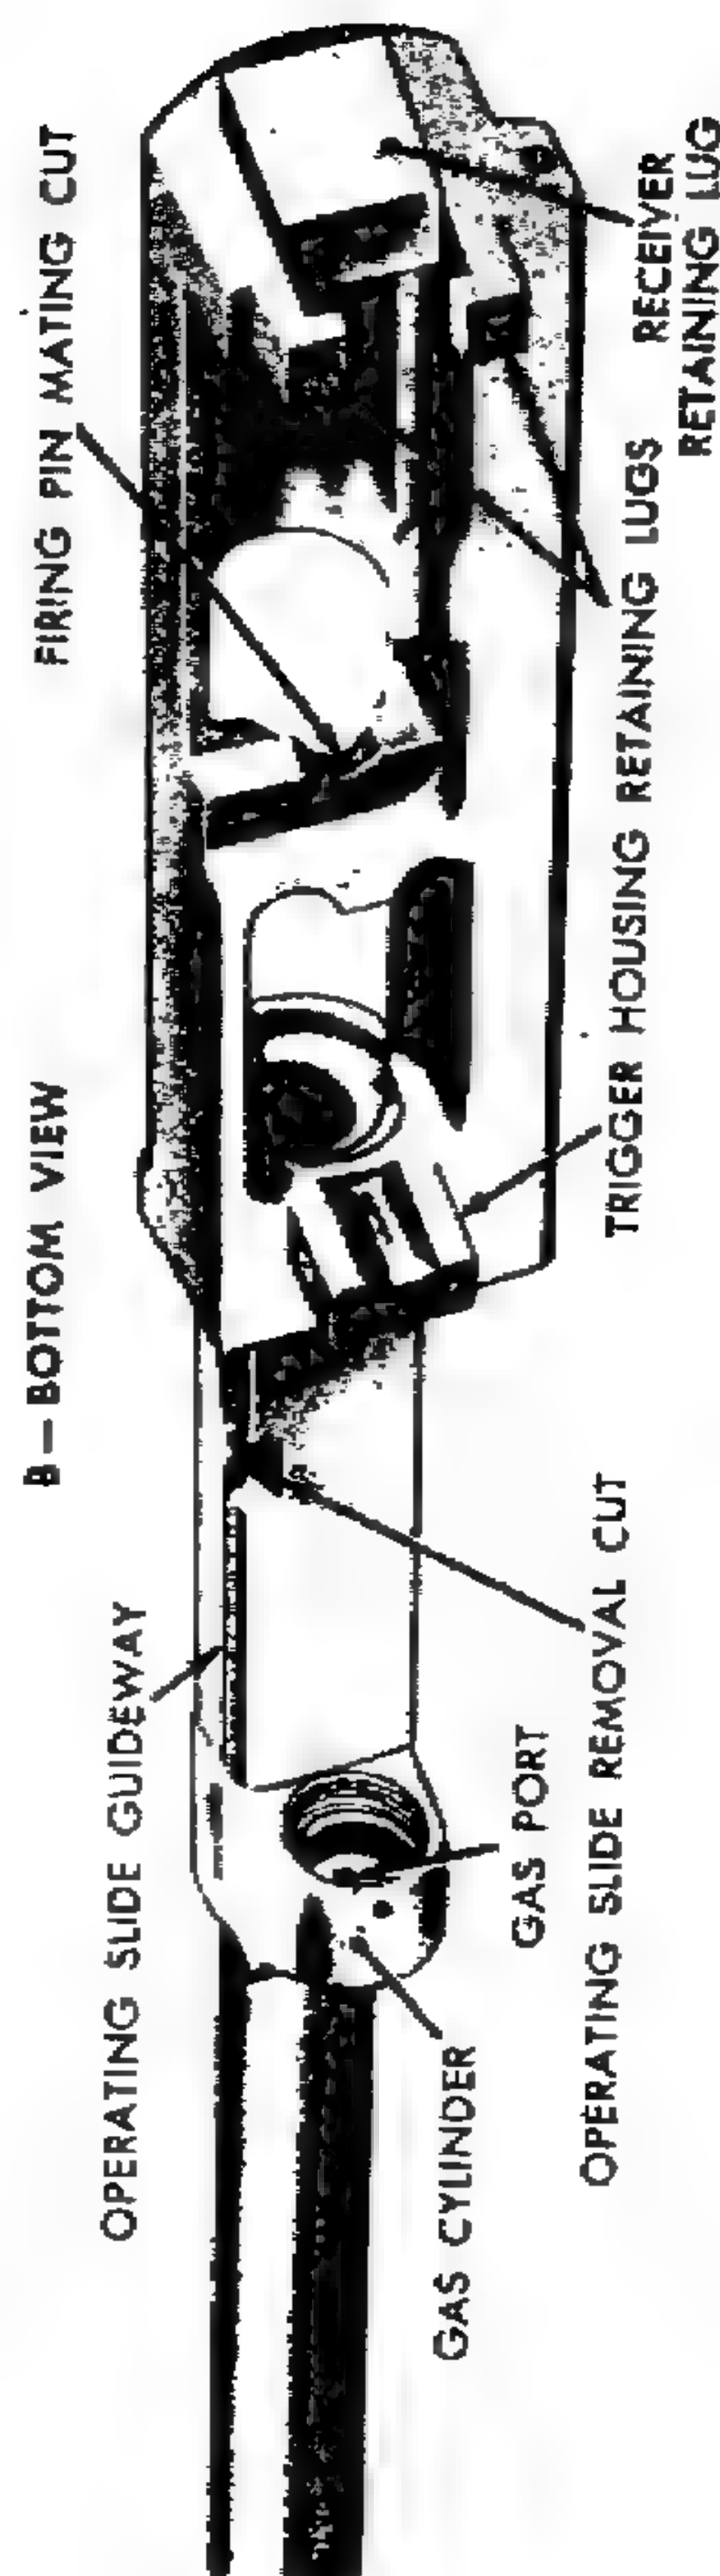

Figure 78. Barrel and receiver group—points of inspection.
- (1) Inspect operating slide spring well for rust or foreign matter. Visually inspect receiver for break-through of the operating slide spring hole. This break-through occurred in the original manufacture of some receivers because of the drill running out through either the bottom or right-hand exterior surfaces. If the forward end of the break-through is 3 inches or more from the front end of the receiver, it is acceptable; otherwise, it must be rejected (DEPOT MAINTENANCE ONLY). Any sharp or feather edges around this break-through are to be removed.
- (2) Inspect receiver under "black light" (Magnaglo or approved equal) for cracks in the area around the bolt locking slot at the right hand side and at the front and rear trigger housing retaining lugs (DEPOT MAINTENANCE ONLY). Receivers having cracks extending in both directions around a corner must be rejected.
- (3) Visually inspect condition of firing pin retracting cam mating cut in the bridge of receiver (fig. 78). This cam was cut to an angle of 33° in the earlier manufacture of receivers and later to 45°. Both are acceptable if in good condition.
- (4) Visually inspect trigger housing retaining pinhole in the receiver. If out-of-roundness is apparent, reject the receiver (DEPOT MAINTENANCE ONLY).
- (5) Inspect the bullet ramp in the receiver to assure it is clean and smooth for proper feeding of the ammunition. Burrs and sharp edges should be removed by careful polishing with fine emery cloth. The lower edge of the bullet ramp (where the angular surface intersects the vertical) should be smoothly rounded.
- (6) Inspect receiver for looseness with barrel, deformation, rust and burrs. If receiver is disassembled from barrel, inspect for worn or crossed threads in barrel aperture (DEPOT MAINTENANCE ONLY).
- (7) Inspect bolt guideway and locking shoulders for wear, burrs, cracks, and foreign matter. Inspect receiver retaining lug on rear end (figs. 78 and 105) for wear, burrs, and looseness with recoil plate when assembled to stock.
- (8) Inspect operating slide guideway on right side for wear, burrs, and foreign matter, and operating slide removal cut for wear and burrs. Inspect operating slide stop detent aperture for wear, burrs, and foreign matter. Forward surface of aperture should be at a sharp right angle to receiver, and with a clean edge to facilitate retention of stop, and rear face smooth and sloping to facilitate camming. Inspect the rear inside face of receiver for foreign matter.